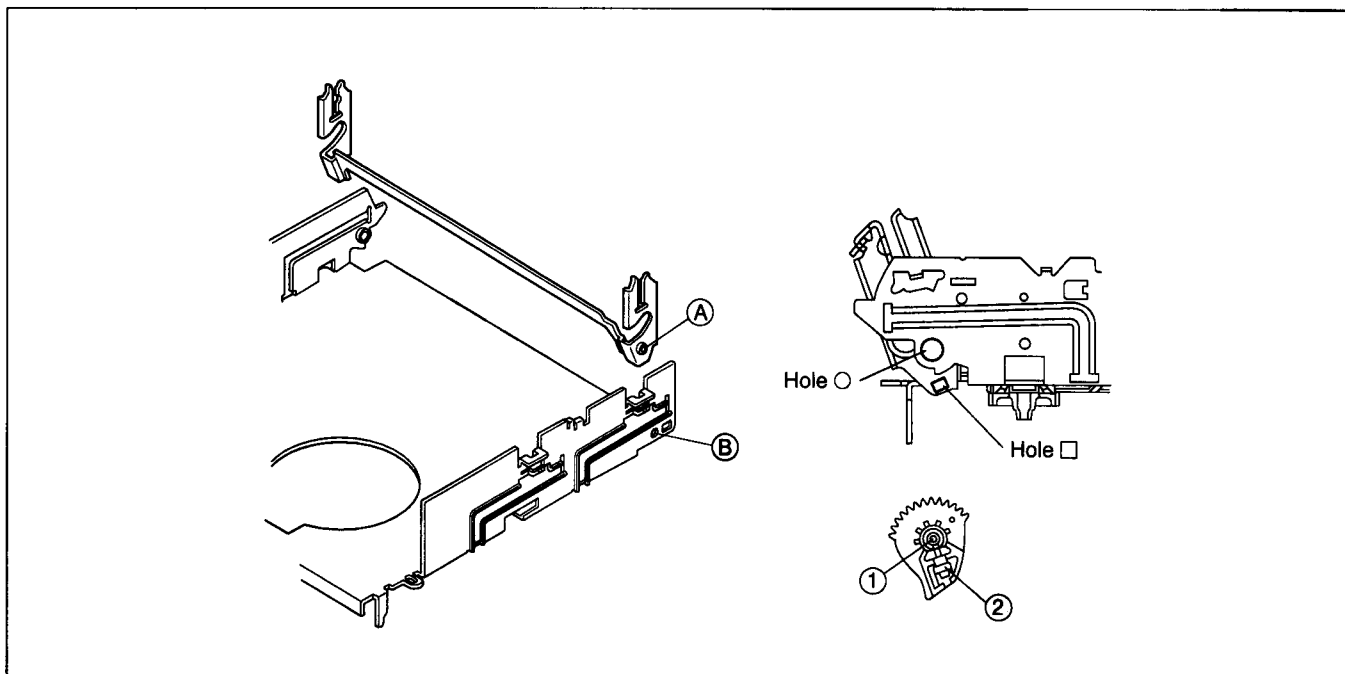

Fig. 2-2-31
- (1) Insert section ① of the drive arm into section ② of the main deck.
- (2) Insert section ① of drive gear into hole ○ of the drive arm and section ② into hole □. (See Fig. 2-2-31)